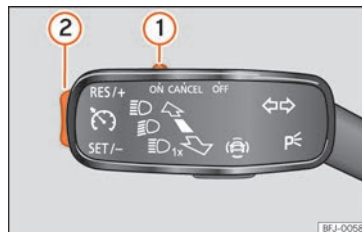

Fig. 174 On the turn signal lever: controls for operating the GRA.
- Move the control » **Fig. 174 ①** to **ON**.
- Press button » **Fig. 174 ②** in area **SET/-**.
- Move the control » **Fig. 174 ①** to **CANCEL** or step on the brake.
- Press button **»» Fig. 174 ②** in area **RES/+**.
While the GRA is set, the stored speed can be adjusted with button **»» Fig. 174 ②**:
- To increase in increments of 1 km/h (1 mph) briefly press button **»» Fig. 174 ②** in the area **RES/+**.
- To increase the speed without interruption, keep button **»» Fig. 174 ②** pressed down in the area **RES/+**.
- To reduce in increments of 1 km/h (1 mph) briefly press button **»» Fig. 174 ②** in the area **SET/-**.
- To reduce the speed without interruption, keep button **»» Fig. 174 ②** pressed down in the area **SET/-**.
- Move control **»» Fig. 174 ①** to **OFF**.